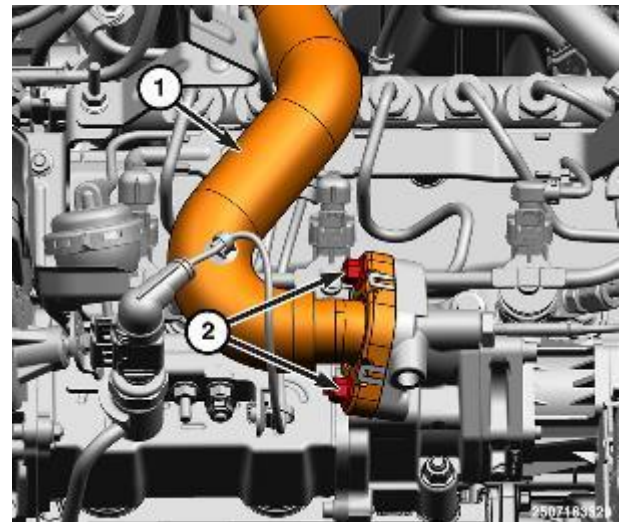

Figure 104 – Lower EGR Tube
- 20. Remove the lower EGR tube bolts (2) and the EGR tube (1) (Figure 104).